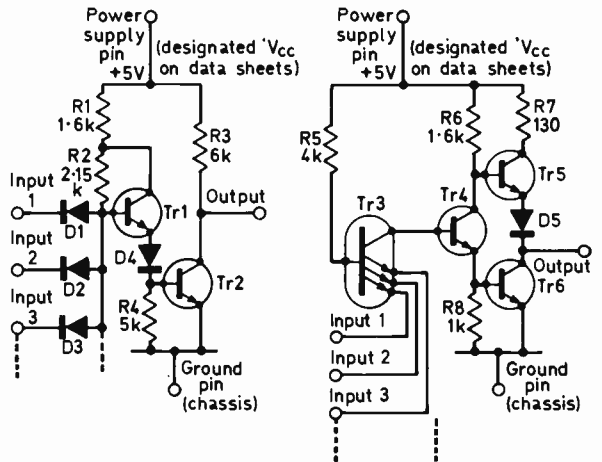

Fig. 3 (left): Circuit of the basic DTL gate. Fig. 4 (right): Circuit of the basic TTL gate.
Figure 3 shows the theoretical circuit of the basic DTL gate behind any normal input of a DTL integrated circuit package. It at the same time shows the circuitry immediately behind any normal output. Simple packages with only basic gates contain nothing else except the depicted circuitry between each associated input and output. More complex packages contain several internally interconnected basic gates and auxiliaries, arranged so that the set of externally accessible inputs and outputs obeys the given truth table.
Fig. 5: Truth table for the basic DTL (Fig. 3) or TTL (Fig. 4) gate. The output level is low (0) only if all inputs are high (1) and high if all inputs are not high at least one being low. This is called the "not and" or NAND function.